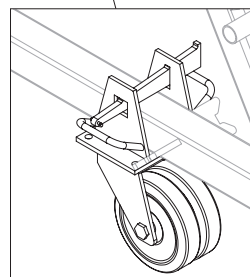

Fig. B4.04b
- Rear castor (**48**) as far back as possible. (Fig. B4.04b)